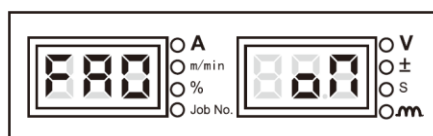

Figure 3-30 Screen for FA0 display
1. Enter the internal menu, adjust the knob on the panel of welding power source to **FA0**, the digital tubes will display as shown in Figure 3-30.